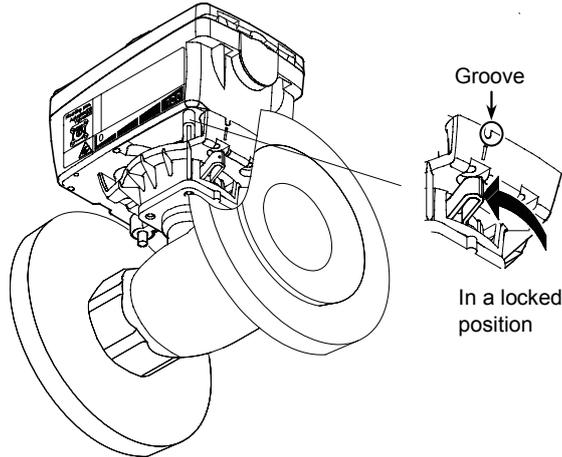

Figure 9 Locked Position
- (4) Assemble the actuator Model MY53X0A with the valve Model VY5302C. Engage the four pins of the actuator with the mating holes on the valve joint surface.
(5) Move the lock lever to the left end (a groove as an indication) as shown in Figure 9.